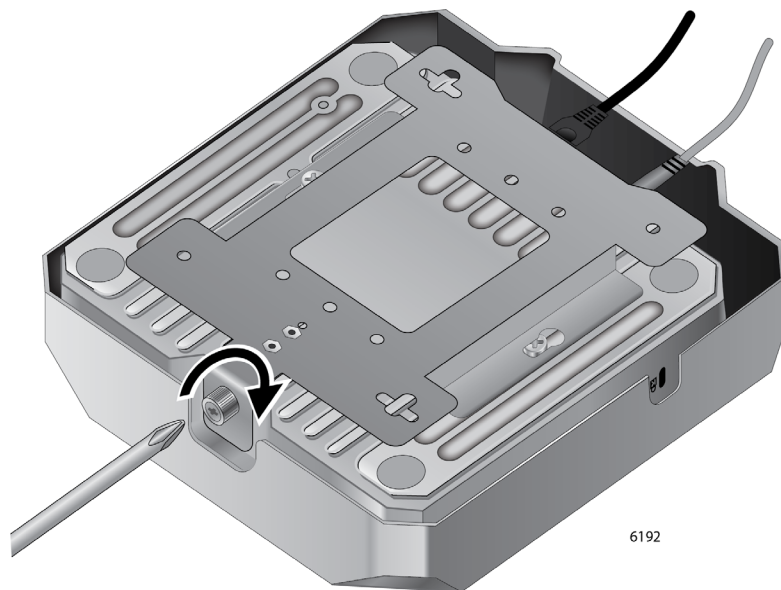

Figure 21. Tightening the Mounting Bracket Thumbscrew
3. Tighten the thumbscrew to secure the access point to the mounting bracket. Refer to Figure 21.